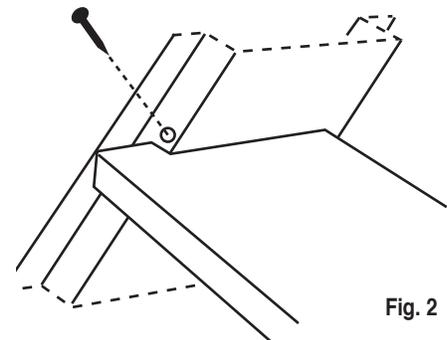

Fig. 2
STEP 5 SECURE STAIR TREAD (fig.2) by driving an 8d nail straight down into the tread through the hole provided in the GORDON STAIR STRINGER.